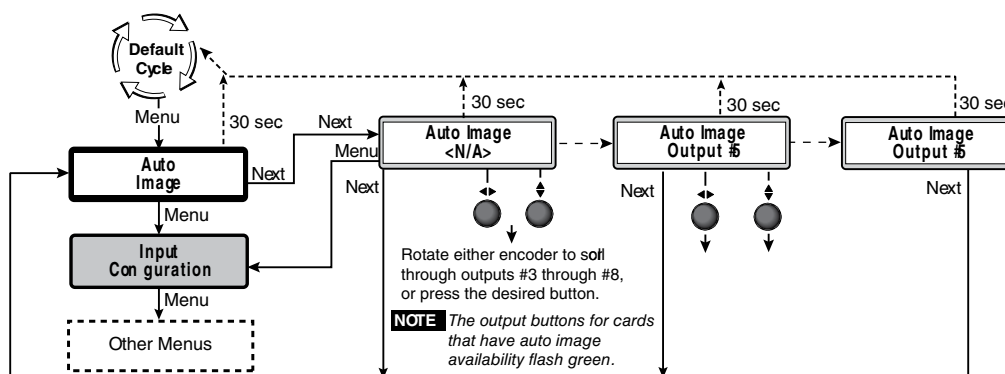

Figure 3-42 — Auto image menu
1. From the default cycle, press the Menu button once to select the auto image menu (see figure 3-42).